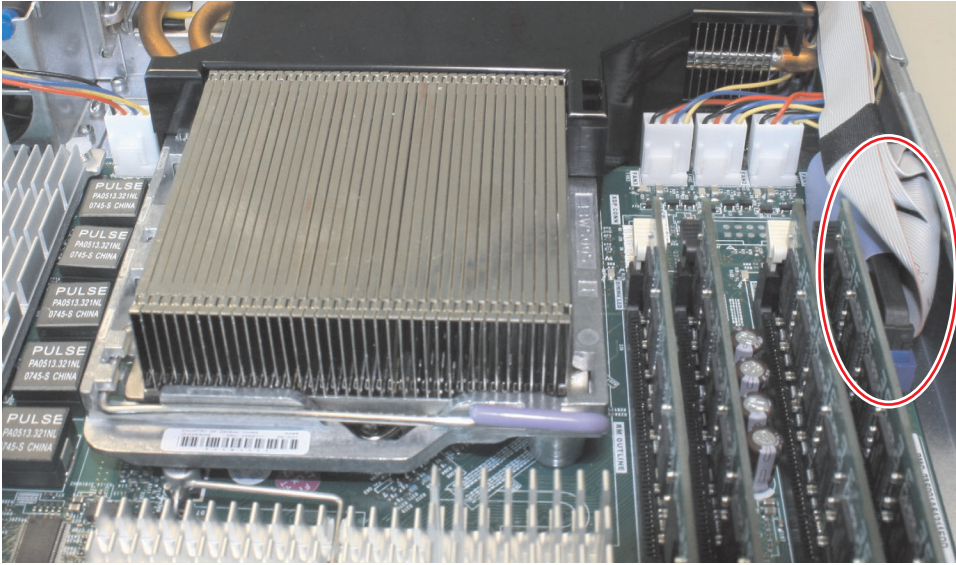

Figure 278. The IDE connector on the SAN Volume Controller 2145-8A4 system board
11. Remove the cable from the IDE connector, which is identified in Figure 278 on page 278.